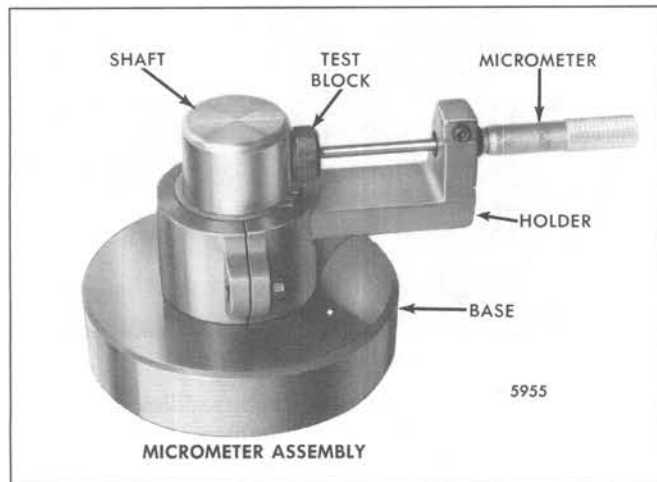

Fig. 3 - Test Fixture and Micrometer
7. Zero the micrometer with the test block supplied (Fig. 3). The micrometer is .050" per revolution, not .025" as normally seen on micrometers.